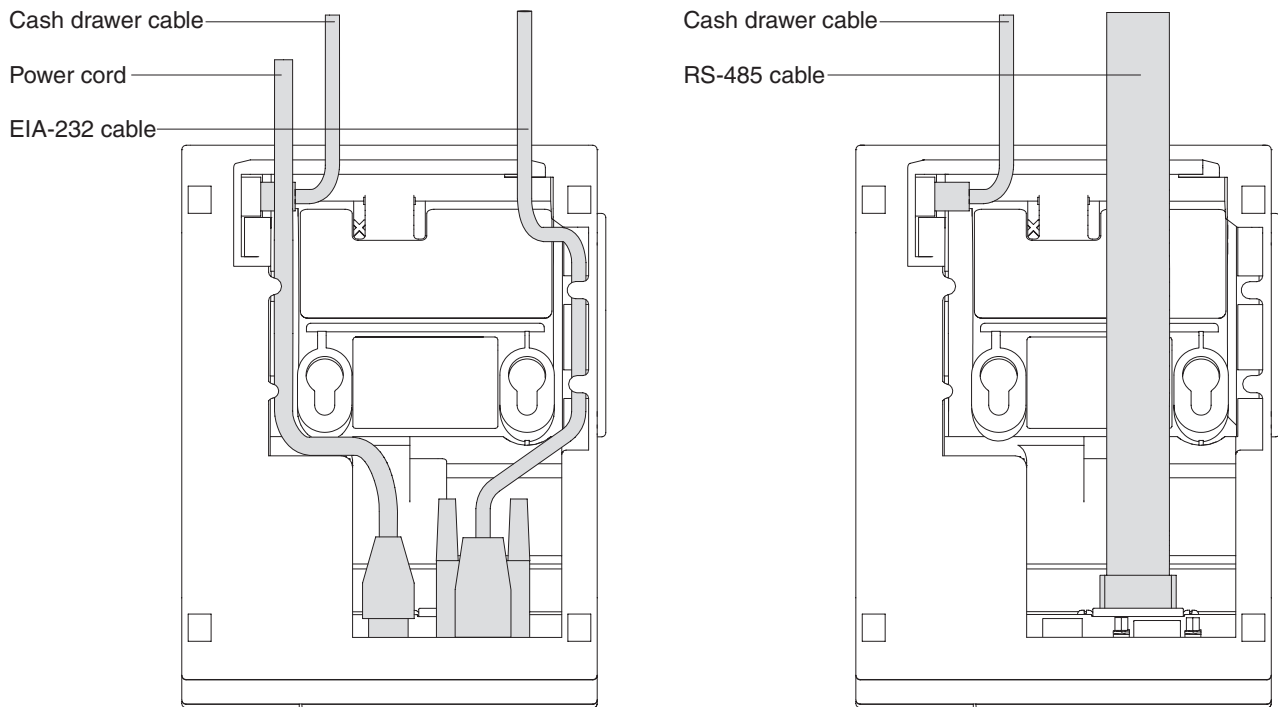

Figure 8. EIA-232 and RS-485 cable routing for single-station SureMark printers
5. For single-station printers, route any power cord and cables as shown in Figure 8 on page 20.